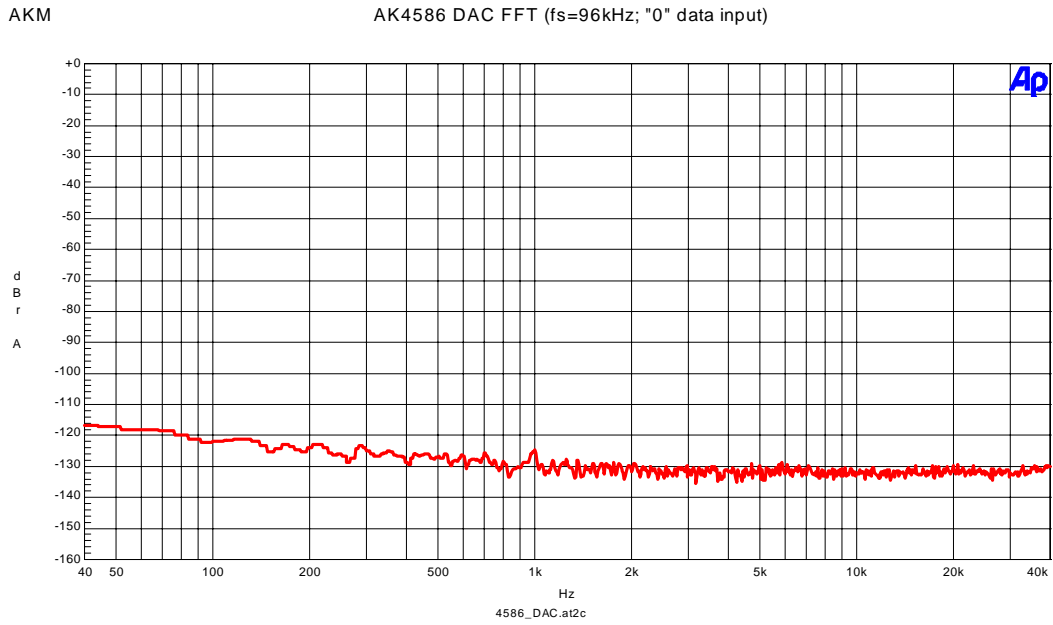

Figure 4-4. FFT (Noise floor)
- Figure 4-4. FFT (Noise floor)